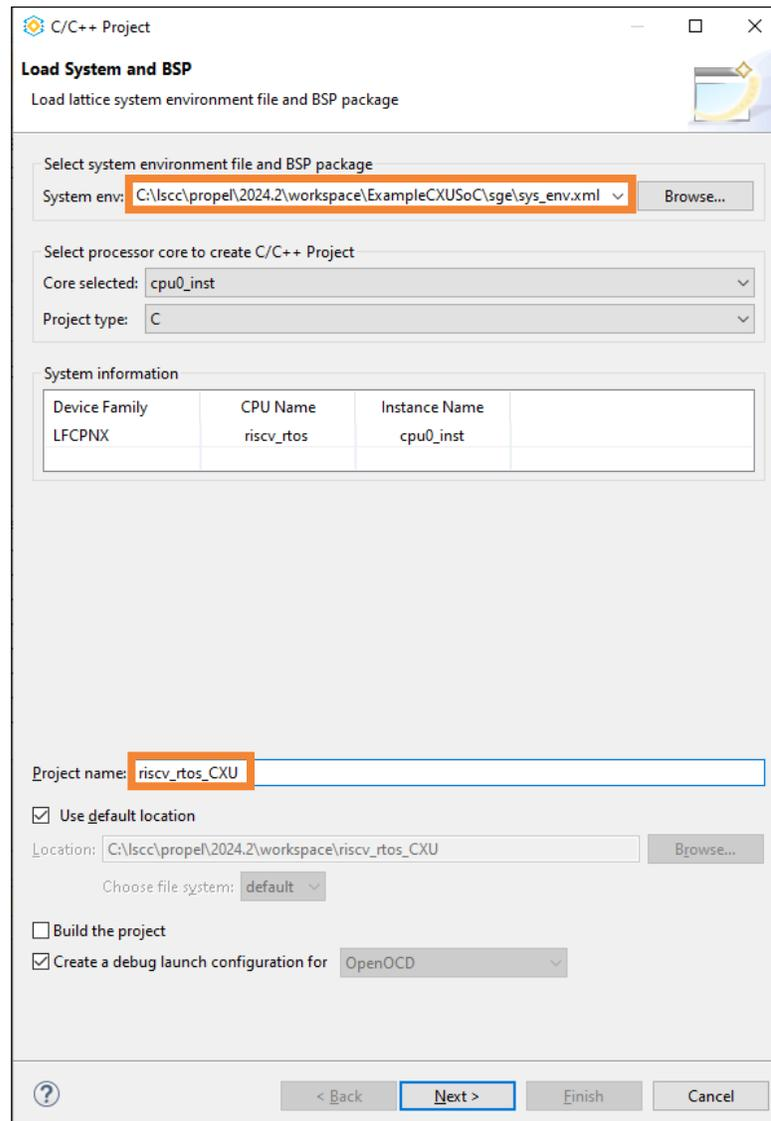

Figure 8.2. Load System and BSP Page 7
1. The Timing Profiling C project can be created through the **Load System and BSP** page (Figure 8.2).